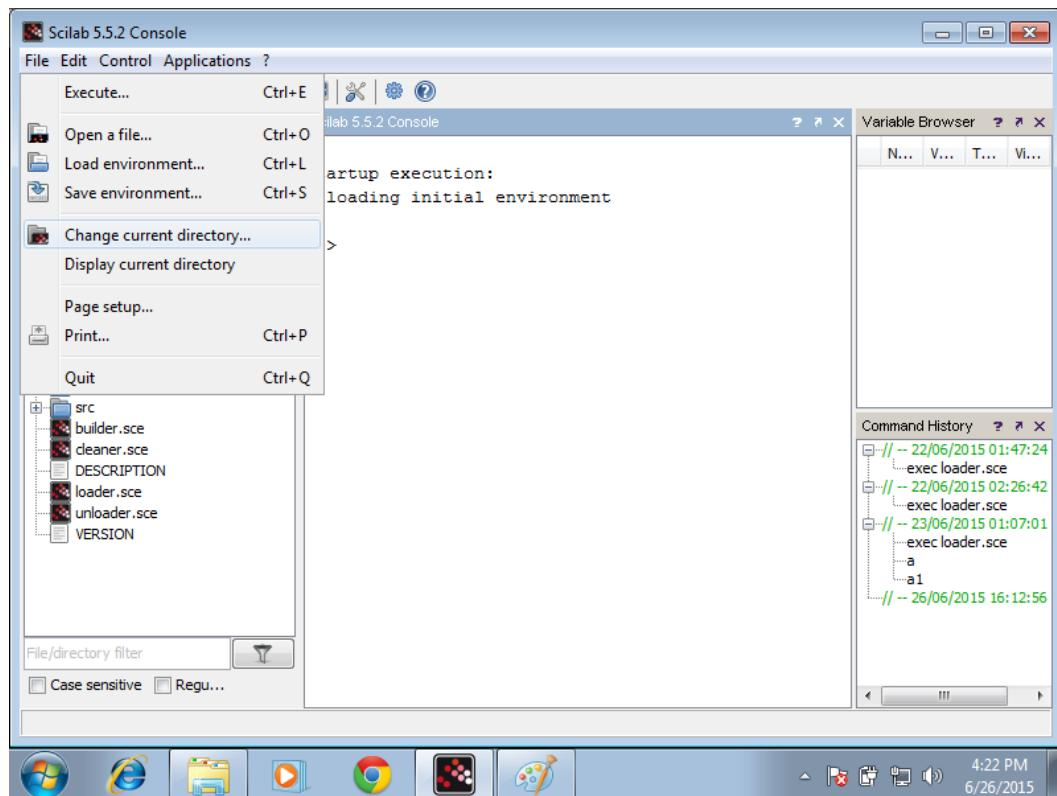

Figure 3.7: Changing scilab directory
2. After launching Scilab, first we have to change the working directory. To do so, click on the **File** menu and then click on the **Change current directory** option as shown in Fig. 3.7.